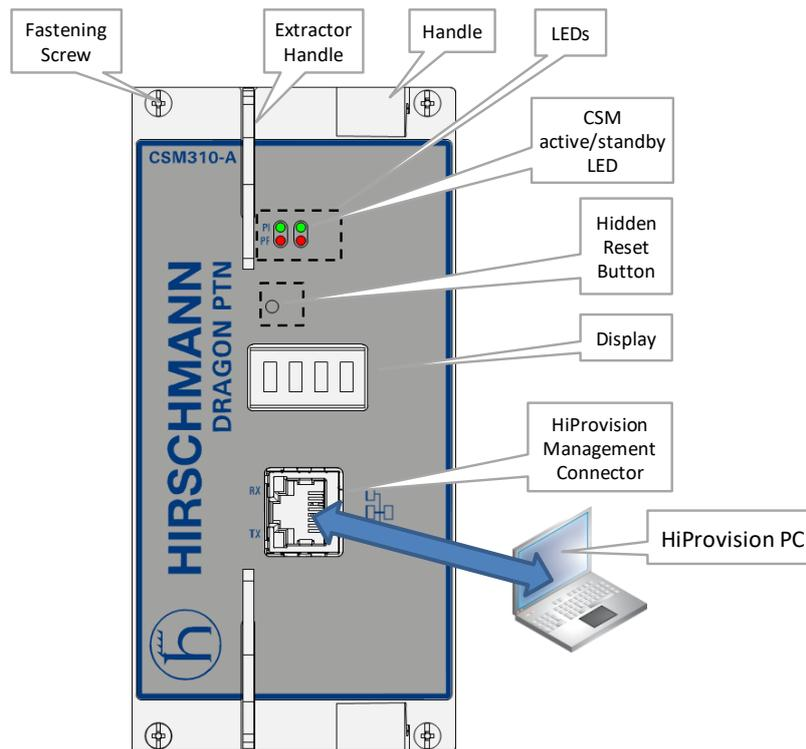

Figure 5 CSM310-A Front Panel → Connect HiProvision PC
- ▶ Interconnect one or two NICs on the HiProvision PC with one single CSM or two redundant CSMs in a node in the Dragon PTN network. The connection(s) with the node occurs via plugging in the copper cable into the 'HiProvision Management Connector' of its CSM(s), see Figure 5;